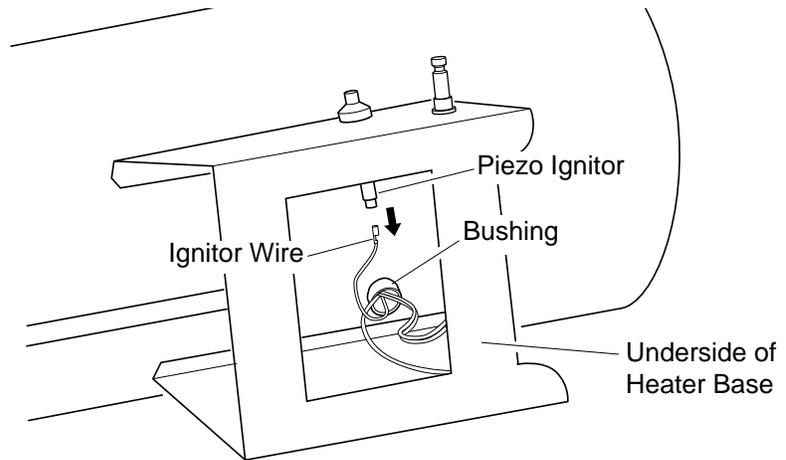

Figure 13 - Removing Ignitor Wire from Piezo Ignitor
No spark at ignitor. To test for spark, follow step 9 under Ignitor , page 12. If you see spark at ignitor, have heater serviced by qualified service person. If no spark seen: A) Loose or disconnected ignitor wire B) Wrong spark gap C) Piezo ignitor loose D) Bad ignitor electrode	A) Check ignitor wire. Tighten or reattach loose ignitor wire. See Figure 13, page 12 for ignitor wire location. B) Set gap between ignitor electrode and target plate to 4.3 mm. C) Tighten nut holding piezo ignitor to base of heater. D) Replace ignitor electrode. See Ignitor , page 12.
2. Remove black ignitor wire from piezo ignitor. Access ignitor wire through underside of heater base (see Figure 13). Push wire up through bushing in heater shell.